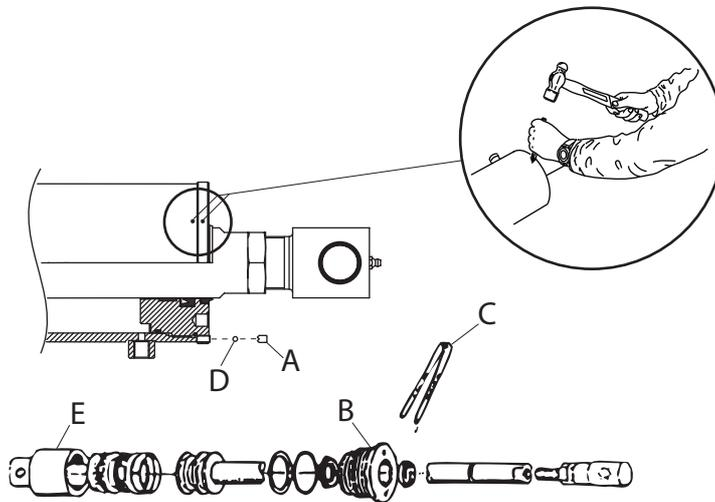

Figure 4.10
- 1 Make a mark on the ram tube and piston rod guide to enable same position at assembly, see "Figure 4.10".
- 2 Loosen the screw (A) M6x8 completely and make sure to save the steel ball (D) forming the spin-lock.
- 3 Mount the tool (C) on the piston rod guide (B). Undo and remove the piston rod guide.